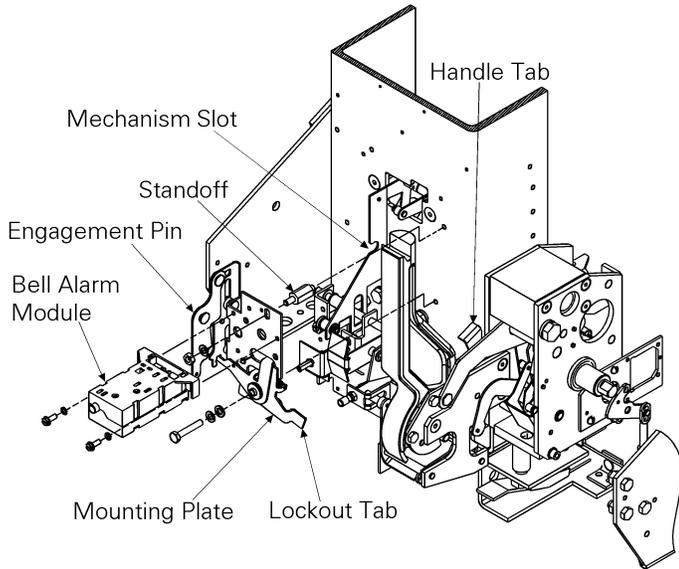
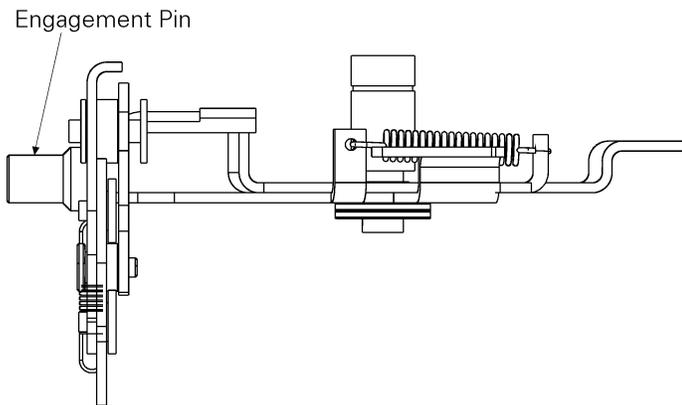

Figure 2. Installation of the Bell Alarm with Lockout.
Figure 3. Top view of the Bell Alarm mounting plate, showing the pin to engage the breaker mechanism.
5. Screw the supplied standoff into the front plate of the breaker, as shown in Figure 2.
6. Place the Bell Alarm mounting plate over the standoff and secure with a washer and nut. Insert the long bolt, with two washers, through the pivot on the mounting plate and screw it into the tapped hole in the front plate of the breaker, as illustrated in Figure 2. Ensure that the engagement pin on the side of the mounting plate, also shown in the top view in Figure 3, fits into the slot in the breaker mechanism and that the lockout tab is underneath the handle tab.
7. Line up the Bell Alarm module on the mounting plate, as shown in Figure 2, so that the solenoid